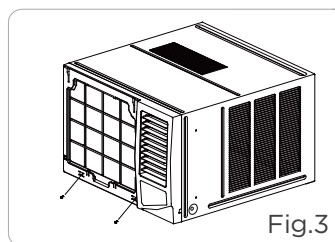

Fig.3
1. Remove two screws at the bottom of the frame.(See Fig. 3)